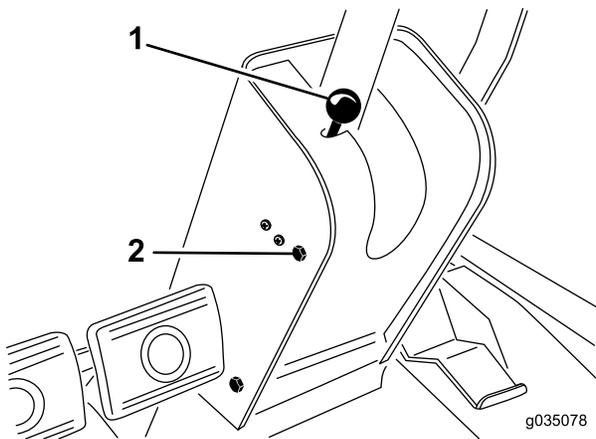

Figure 29
1. Remove the knob from the parking brake and the screws from the steering-column cover (Figure 29).